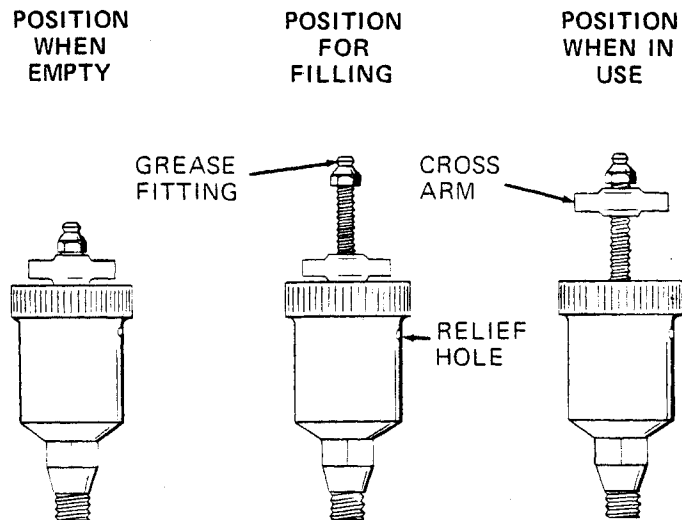

Figure 4. Automatic Lubricating Grease Cup
Before removing the seal assembly, turn the cross arm on the seal grease cup (14) clockwise until it rests against the cover (see figure 4). This will prevent the grease in the cup from escaping after the seal is removed.
Before starting the pump, fill the grease cup through the grease fitting with a good grade of No. 2 pressure gun grease until grease escapes from the relief hole. Turn the grease cup arm counterclockwise until it is at the top of the stem; this will release the spring to apply grease to the seal (see figure 4).